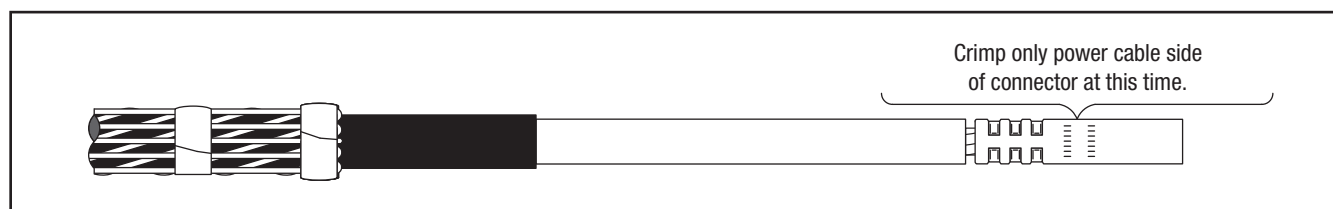

Figure 11
7.1 Check to insure 3M Cold Shrink QT-III Silicone Rubber Termination assembly fits over the selected connector or lug BEFORE installing the connector or lug. If connector or lug (Figure 11) will not fit through the termination core, clean the insulation (per Step 8.0) and slide termination on cable before installing connector or lug. **DO NOT REMOVE CORE AT THIS TIME.**